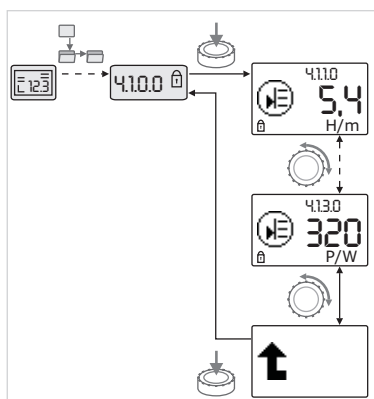

Fig. 37: Calling up information
• Turn the red button to access the "Information" menu elements in the current sub-menu (see Fig. 37). For an explanation of the settings represented by the symbols, see the table in chapter 8.7 "Menu elements reference" on page 87.